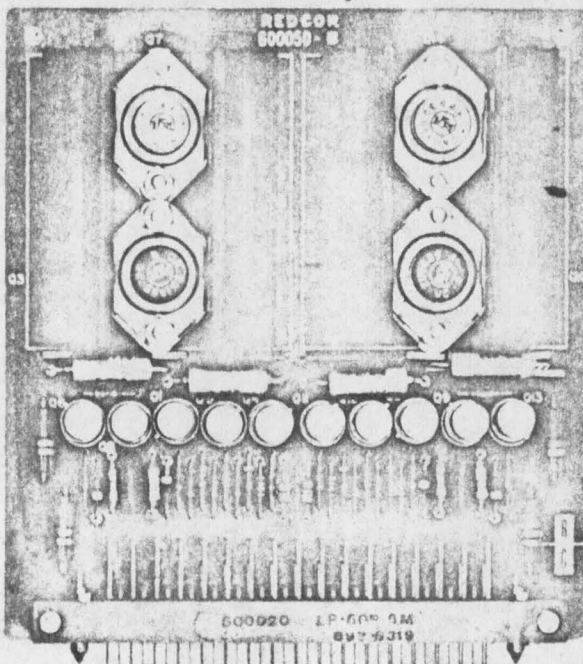

FIGURE 1 - Multivibrator Driver Model 600050
2. Description - The Model 600050 Multi Driver (see Figure 1) is a printed circuit board module consisting of two identical independent driver circuits. The circuit board is a standard 50-pin module with components mounted on one side. The board assembly measures 5 x 5.4 inches and requires two standard spaces.